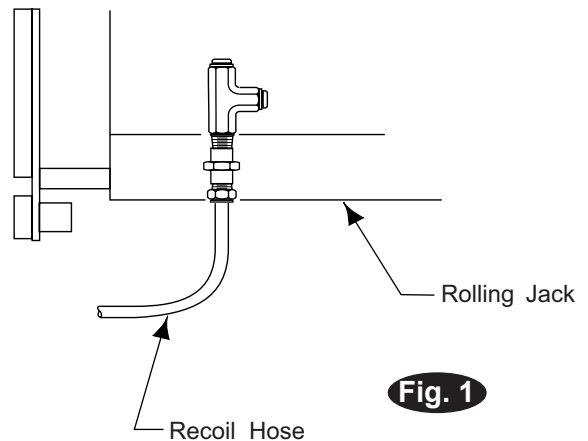

Fig. 1
3. Repeat for front recoil hose. Attach recoil hoses to rolling jacks, Fig. 1, and threaded branch tee.